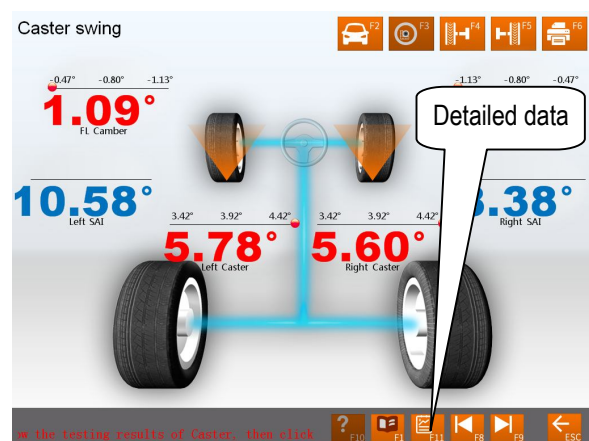

Fig.4.4
4. After test finished, please center the steering wheel. The system will automatically return to the next page to check the measurement result. The interface is as shown in Fig.4.4.